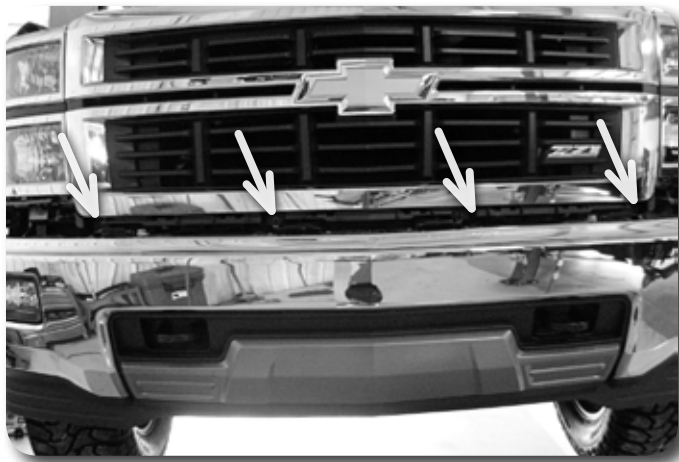

Figure 4
6. With the valance removed, the 4 lower grill mounting bolts are accessible. Remove these bolts and remove the grill from the vehicle. Figure 4